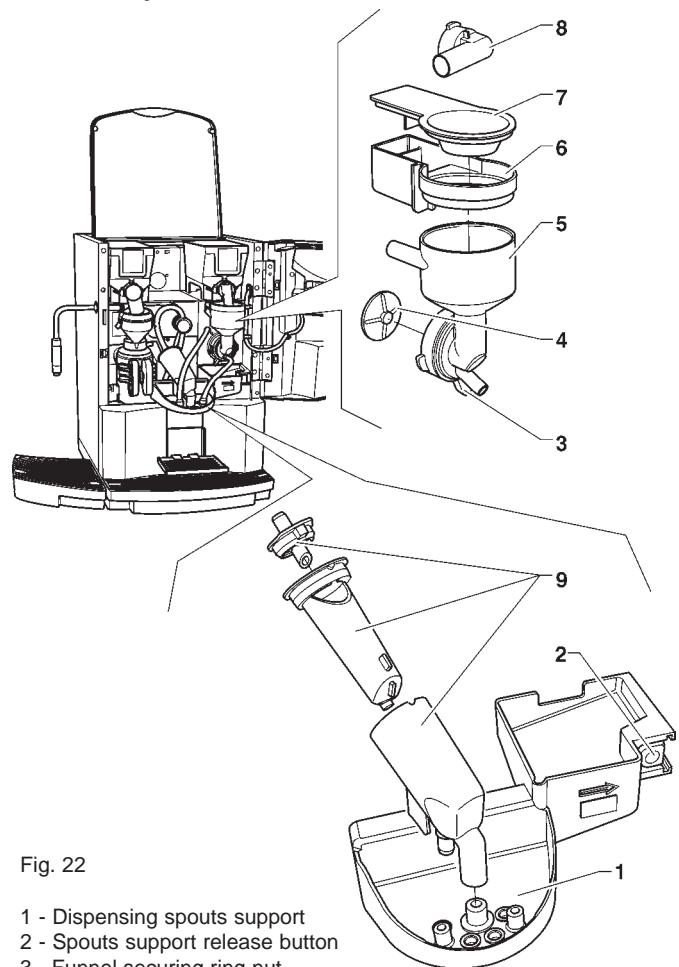

Fig. 22
- remove the powder and the water funnels, the feeders, the powder deposit drawers and the mixer wheels from the mixers (see Fig. 22);